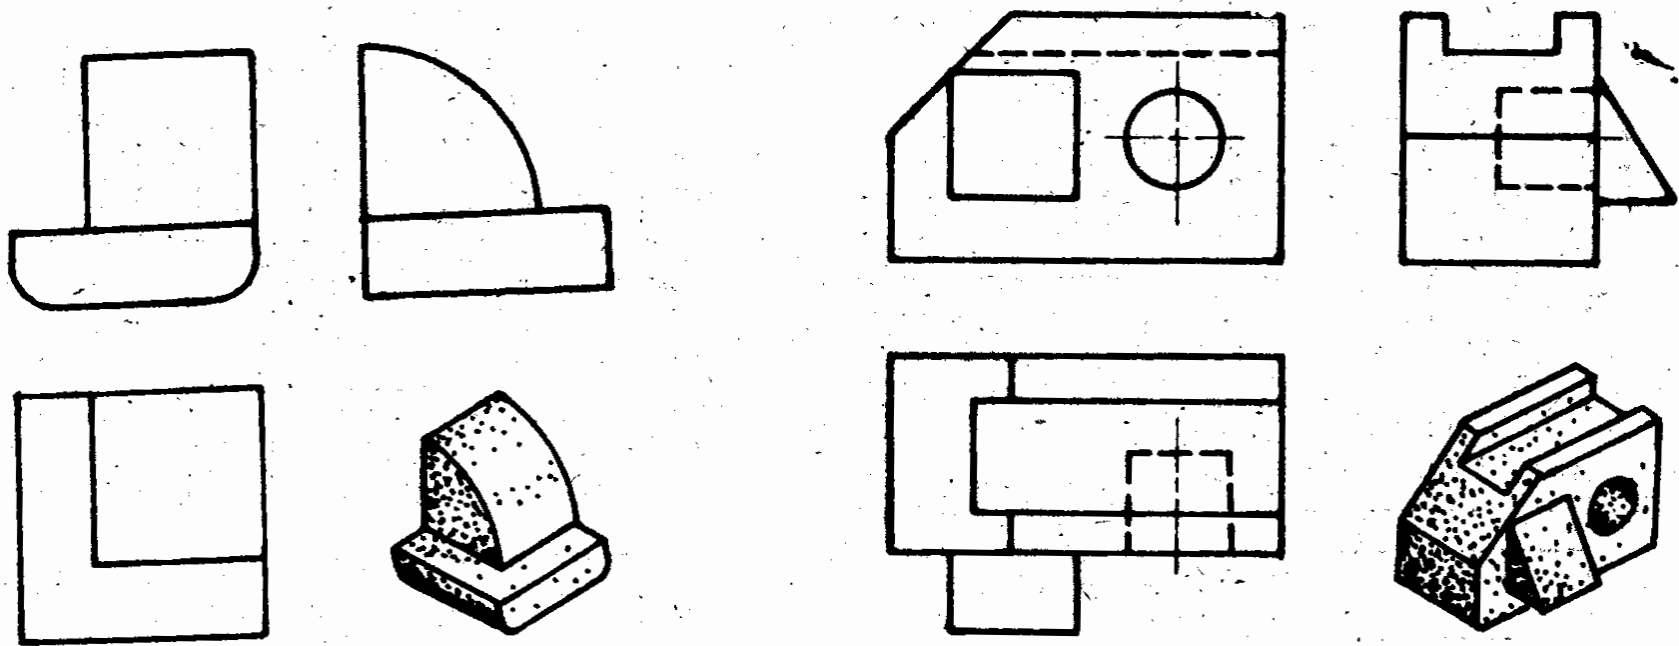

Fig.4.52. Read all views, features and lines. Read each feature by looking at all three views. Then school yourself to remember all features.
- The several lines representing one feature must be read in all views. As an exercise in reading the lines on an orthographic drawing find all the lines representing the hole, prism, slot, and cut of corner in (Fig.4.52).